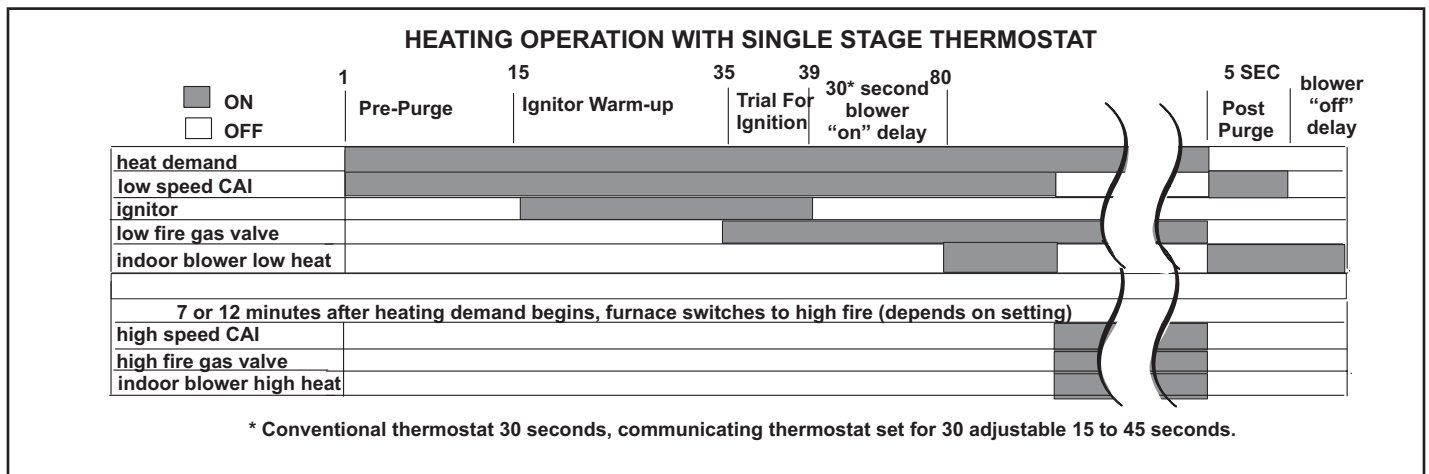

FIGURE 63
**Applications Using A Single-Stage Thermostat See FIGURE 63 for ignition control sequence**